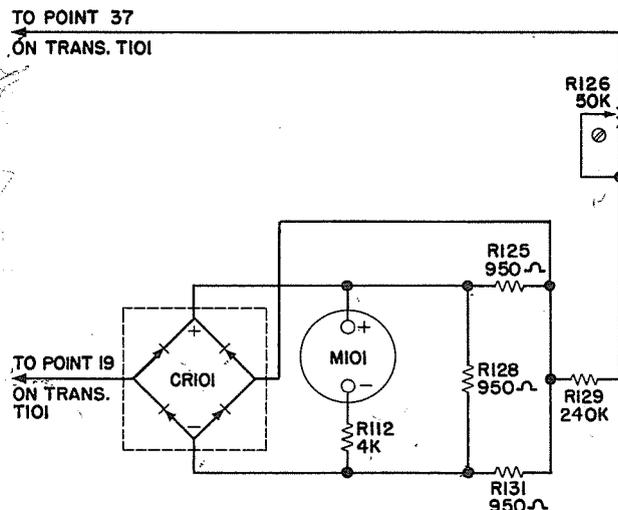

Figure 2-4. Simplified Line Voltage Test Circuit
4. LINE VOLTAGE TEST. (See figure 2-4)